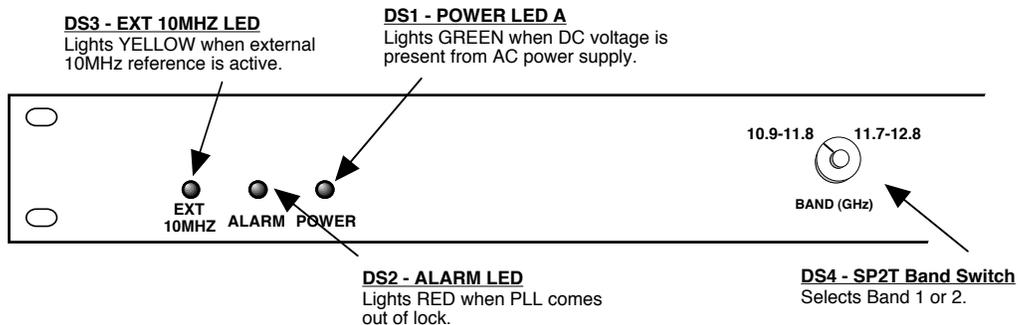

FIGURE 2.2 2115-21-109# Front Panel Controls and Indicators
4. Be sure DS1 (green, DC Power) is on and DS2 (red, Alarm) is off (Figure 2.2).
6. If EXT is selected or AUTO is selected and there is a 10MHz, 3 dBm signal at J2, check that DS3 (yellow, Ext 10MHZ) is on (Figure 2.2).